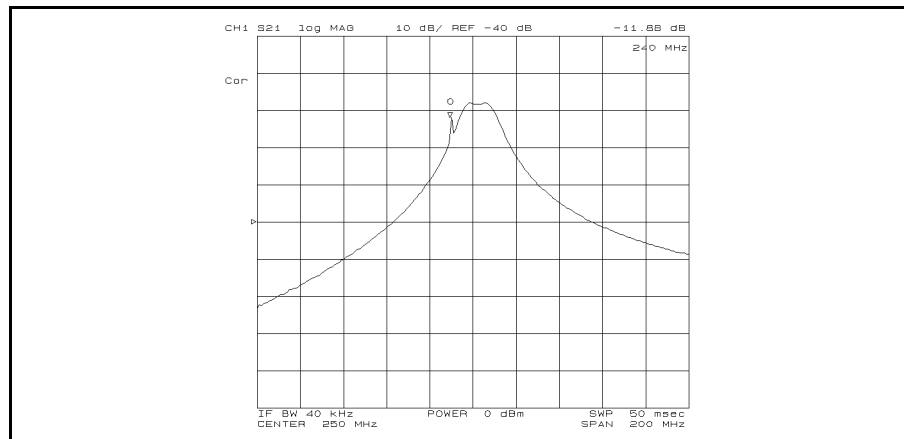

Figure 4-9.
2. Press **[Search]** **PEAK** to put the marker on an unknown peak of the trace. The transmission measurement result is displayed as shown in Figure 4-9.